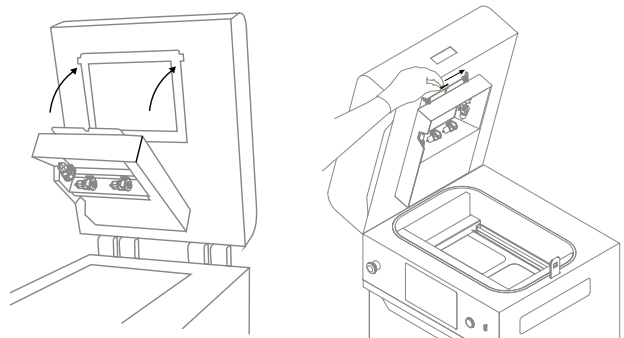

Fig. 12.46 Reinstall the heating module.
14. Lift the heating module (fig. 12.46).
15. Reinsert the heating module split pin (fig. 12.46).